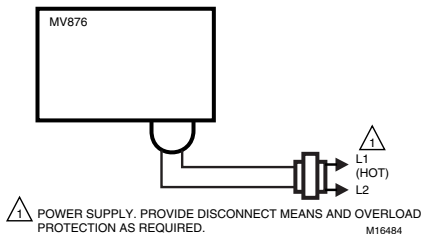

Fig. 11. Wiring diagram for F76 with MV876.
1. Mount the AT140A1034 Transformer and wire as shown in Fig. 11.